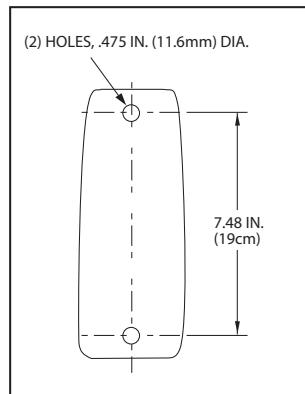

Figure 4. Hole Pattern of Wall Mount Bracket
7. Drill mounting holes as required. See Figure 4.